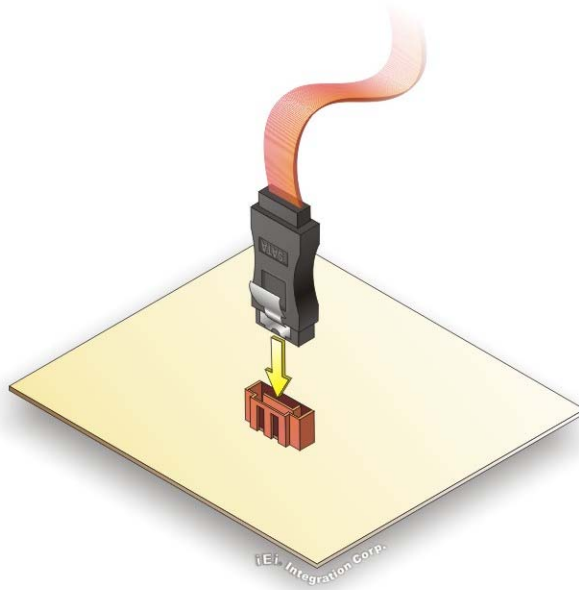

Figure 4-11: SATA Drive Cable Connection
Step 2: Insert the cable connector. Insert the cable connector into the on-board SATA drive connector. See **Figure 4-11**.